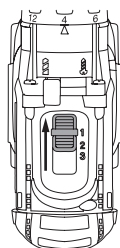

Fig. C5.02
- Set the speed to "Level 1" (Fig. C5.02)